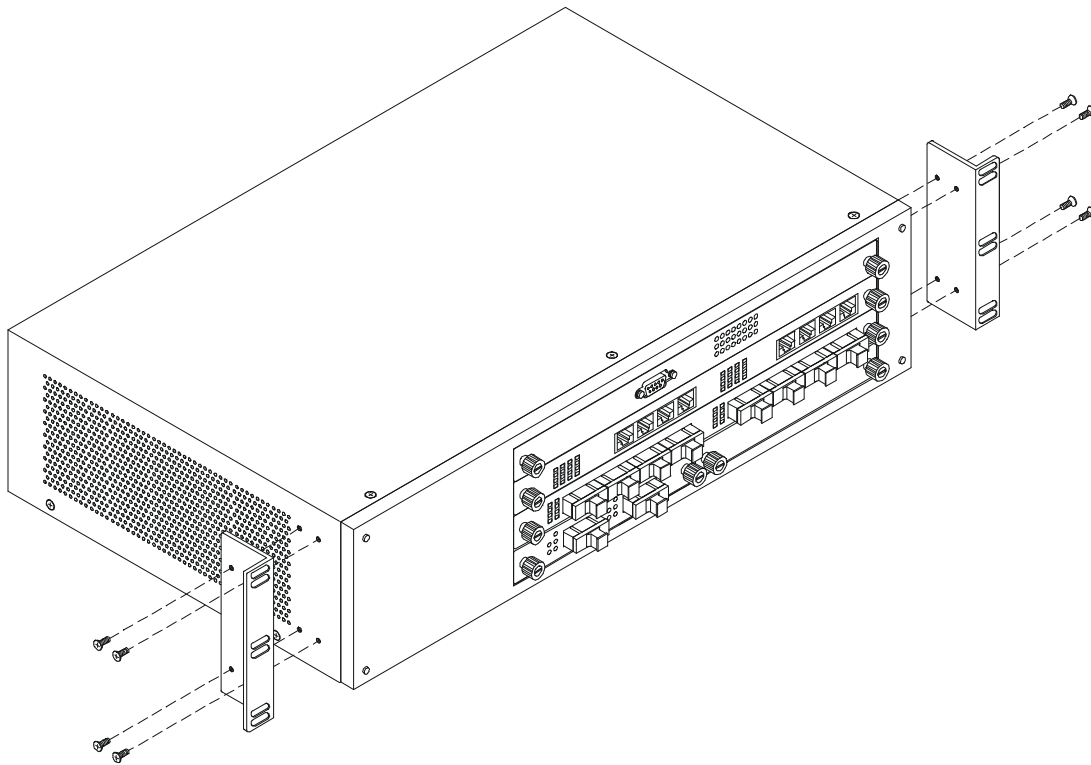

Figure 7: Attach Mounting Brackets
1. Attach a mounting bracket to each side of the DES-5016 with the screws provided. See Figure 7.